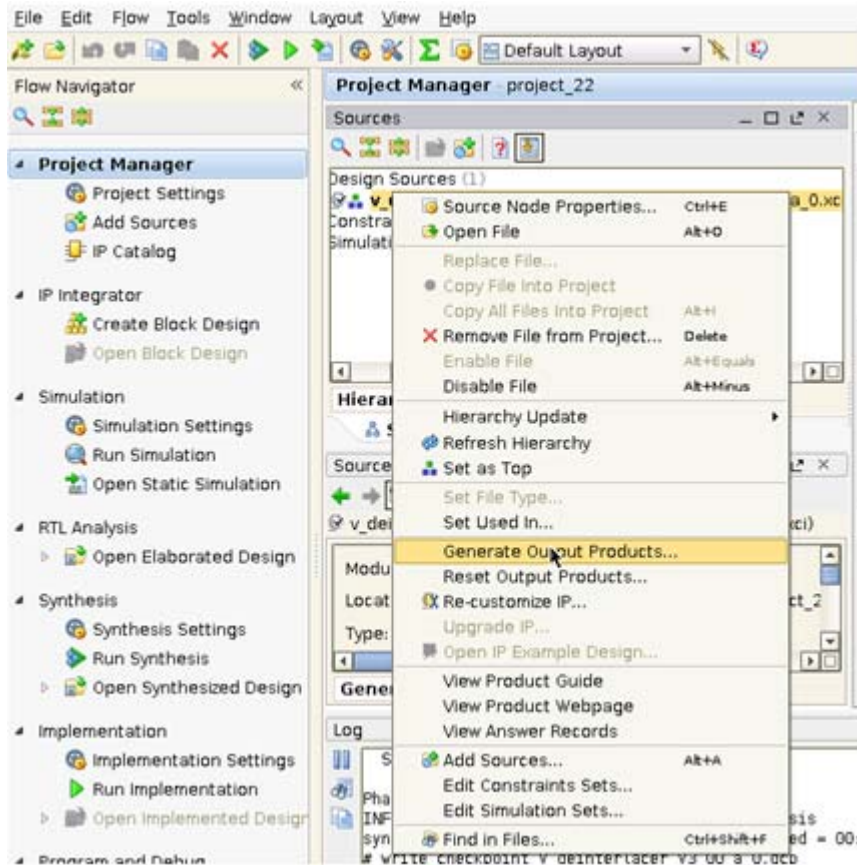

Figure 7-1:
1. After customizing the IP, right-click on the core instance in **Sources** pane and select **Generate Output Products** (Figure 7-1).